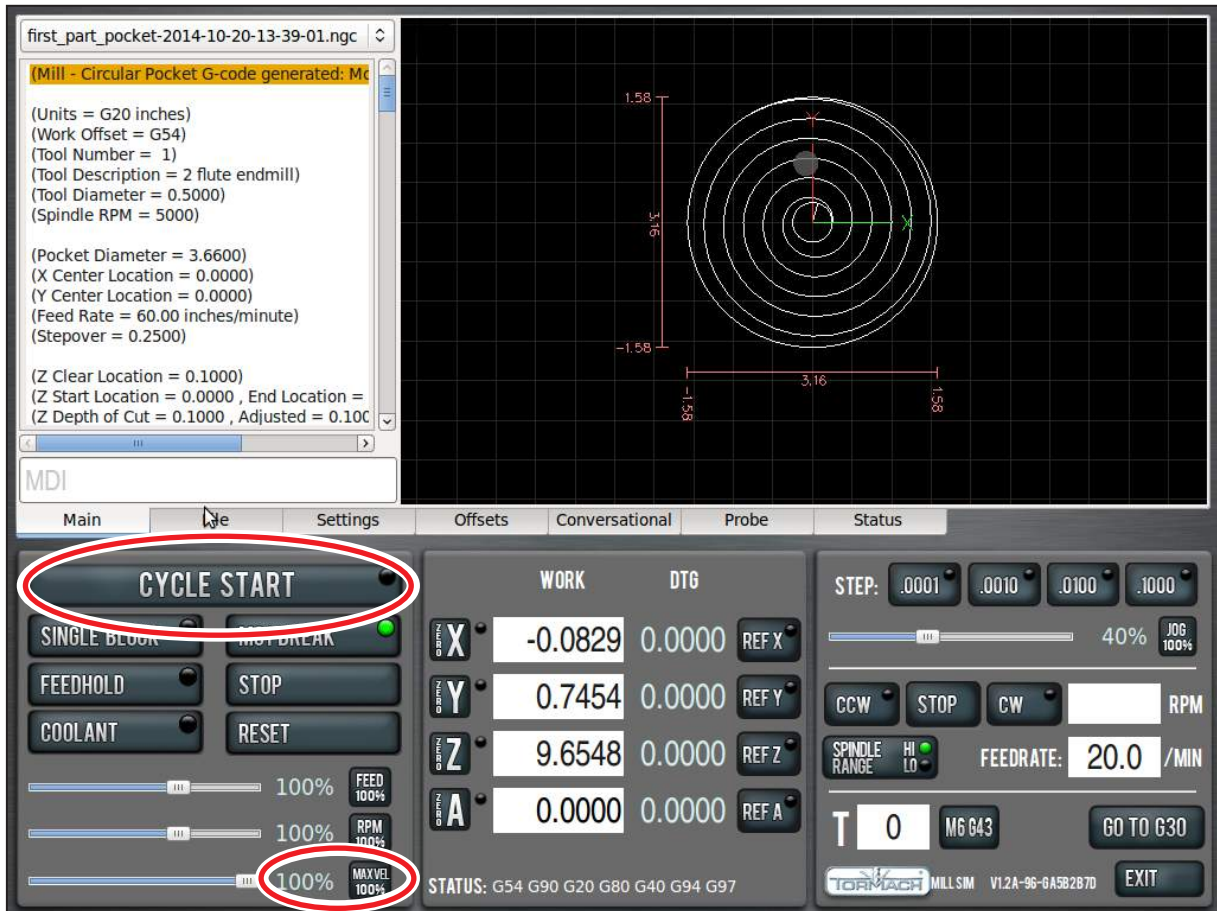

Figure 5.12
- Units are expressed according to the current G20/21 setting. If you are in G21 (metric), the feed rates will be in mm/min and the coordinates in mm. For the purposes of this tutorial, use imperial units (G20). You can check the current G20/21 setting by inspecting the string of active G-codes next to the word *Status* at the bottom middle of the screen (see **Figure 5.12**).
- When you click *Save* (see **Figure 5.11**) it also automatically loads into the control and displays the tool path (see **Figure 5.12**).
1. Grab the *Maxvel* slider (lower left hand corner of screen) by clicking on and drag it down to zero (see **Figure 5.12**).
2. Click *Cycle Start* button (see **Figure 5.12**). If the current tool is not *Tool 1* and you have configured the mill for manual tool changes, the *Cycle Start* button LED may blink requesting a tool change. Change the tool and confirm by clicking the *Cycle Start* button again. If equipped with an ATC, tool changes happen automatically without operator interaction.
3. Grab *Maxvel* slider again and slowly increase allowed velocity (see **Figure 5.12**). Bring velocity back down to zero when you get close to the part and double check values in the DROs to make sure that tool position looks correct. For example, if tool is 1/4" above the workpiece, Z DRO should read 0.2500. If everything looks correct, move *Maxvel* slider back up to resume part program.